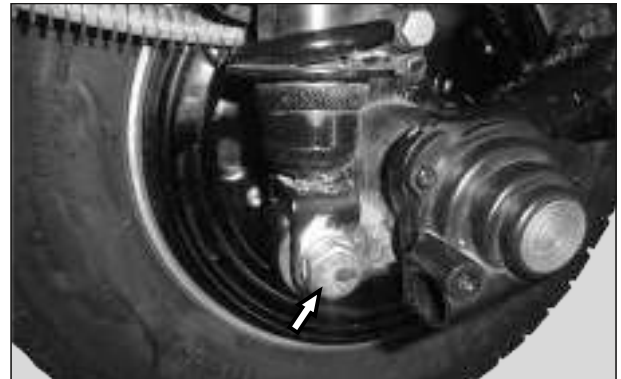

Fig. 5.32
- Loosen and remove 1 no. hexagonal bolt (M12 x 1.75 x 55) along with punched washer and wave spring washer from front shock absorber assembly bottom mounting (C). (Fig. 5.32)